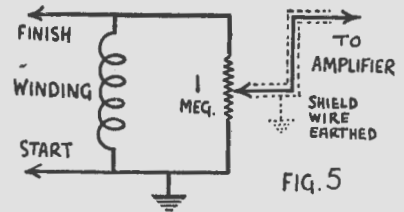

FIG. 5
(2) The strings must not contact the cores or the magnet when plucked.
(3) The pick-up unit to be mounted approximately 2-inches from the bridge, to which the strings are anchored.
(4) The fret markings can be painted on the wood for simplicity, but must be positioned correctly, and are best marked from another instrument, making absolutely sure that the 12th fret is absolutely dead half-way between the neck and the bridge of the instrument.
(5) Earth all exposed parts, such as strings, bridge and magnets to the metallic or braided covering of the wire which connects the pick-up unit to the amplifier system. Microphone cable, if available, is ideal for this purpose. If not, ordinary shielded hook-up will suffice. Fig. 5 shows the method of connecting.